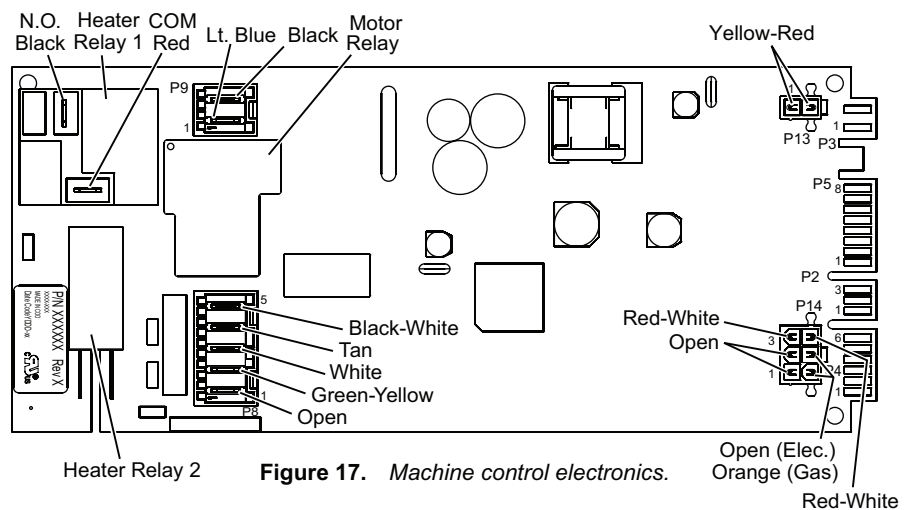

Figure 17. Machine control electronics.
5. Access the machine control electronics. See Accessing & Removing the Electronic Assemblies. Remove the connector P13 from the circuit board. Measure the resistance across terminals 1 (yellow-red wire) and 2 (yellow-red wire). See Figure 17.
1. Remove all the wire connections to the machine control electronics. See Figure 17.